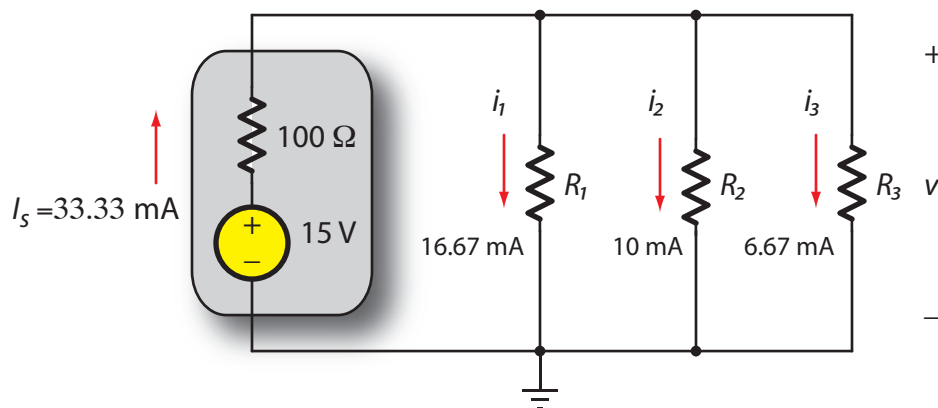

Fig. 5. Design this current divider circuit
Design the current divider circuit shown in Fig. 5 such that it produces the branch currents of 16.67 mA, 10 mA, and 6.67 mA, as indicated. Since a true current source
1. Construct the current divider circuit in Fig. 5 that you designed to give branch currents of 16.67 mA, 10 mA, and 6.67 mA.